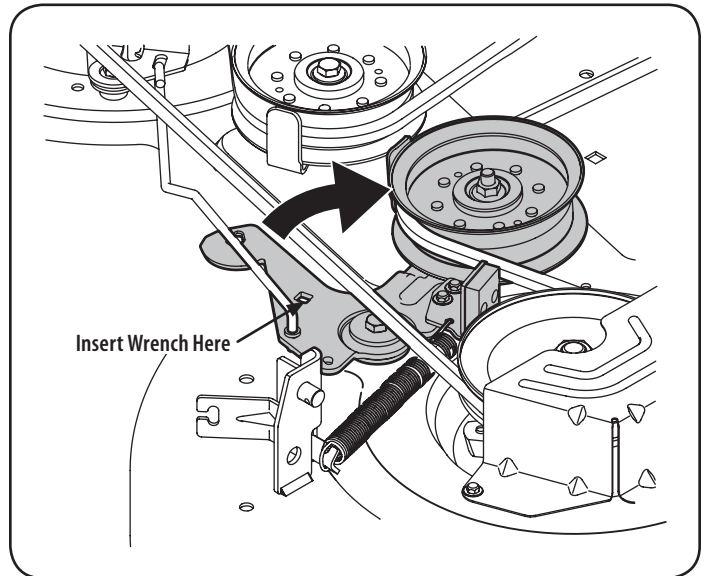

Figure 26
- f. Working on the right side of the tractor, insert a $\frac{3}{8}$ " drive ratchet wrench, set to tighten, into square hole found on the idler bracket. See Figure 26.